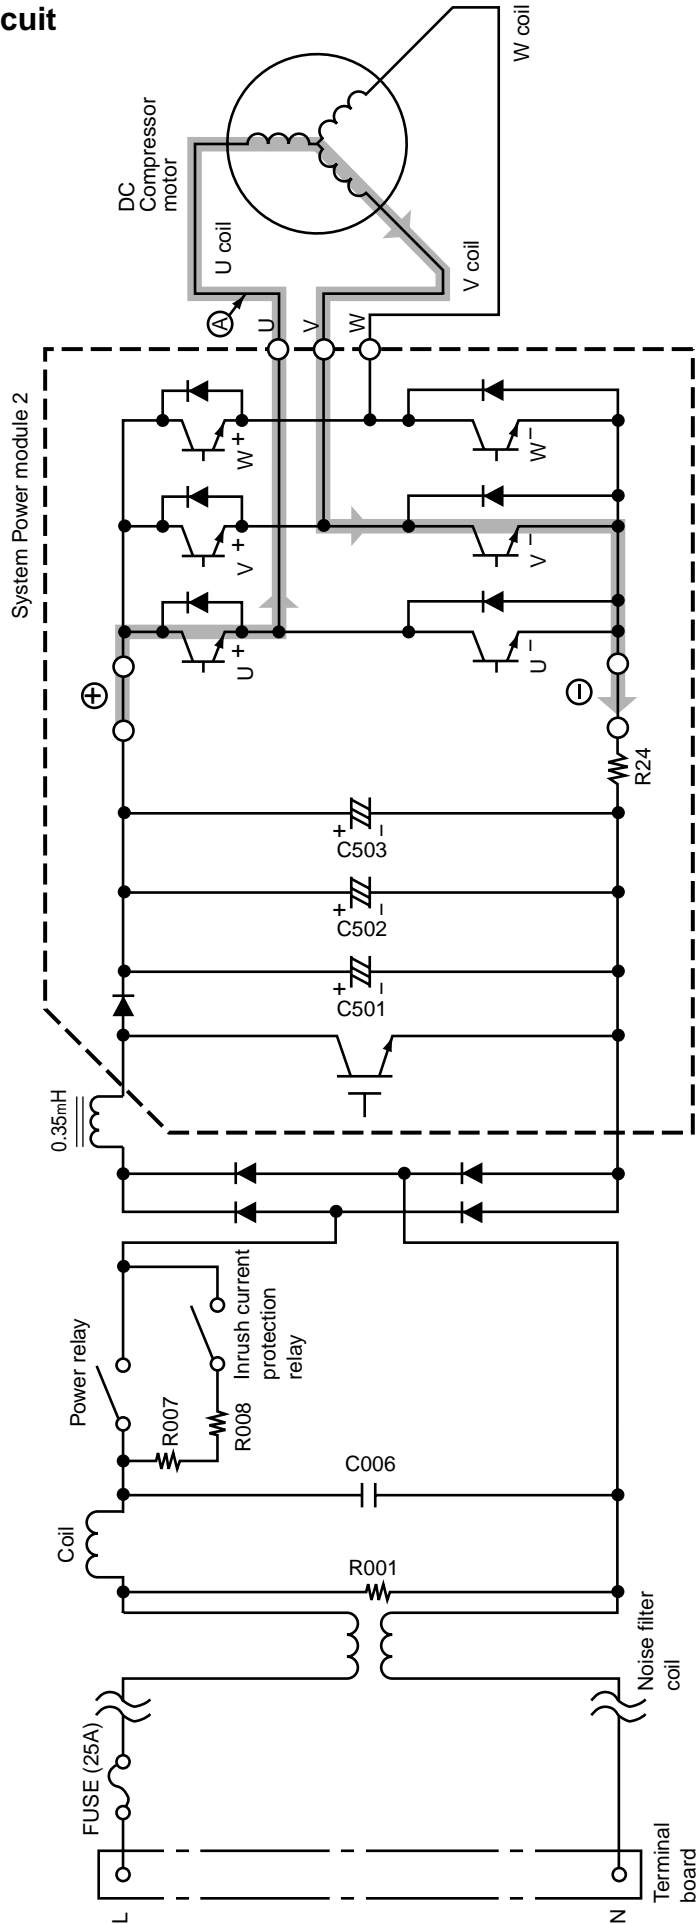
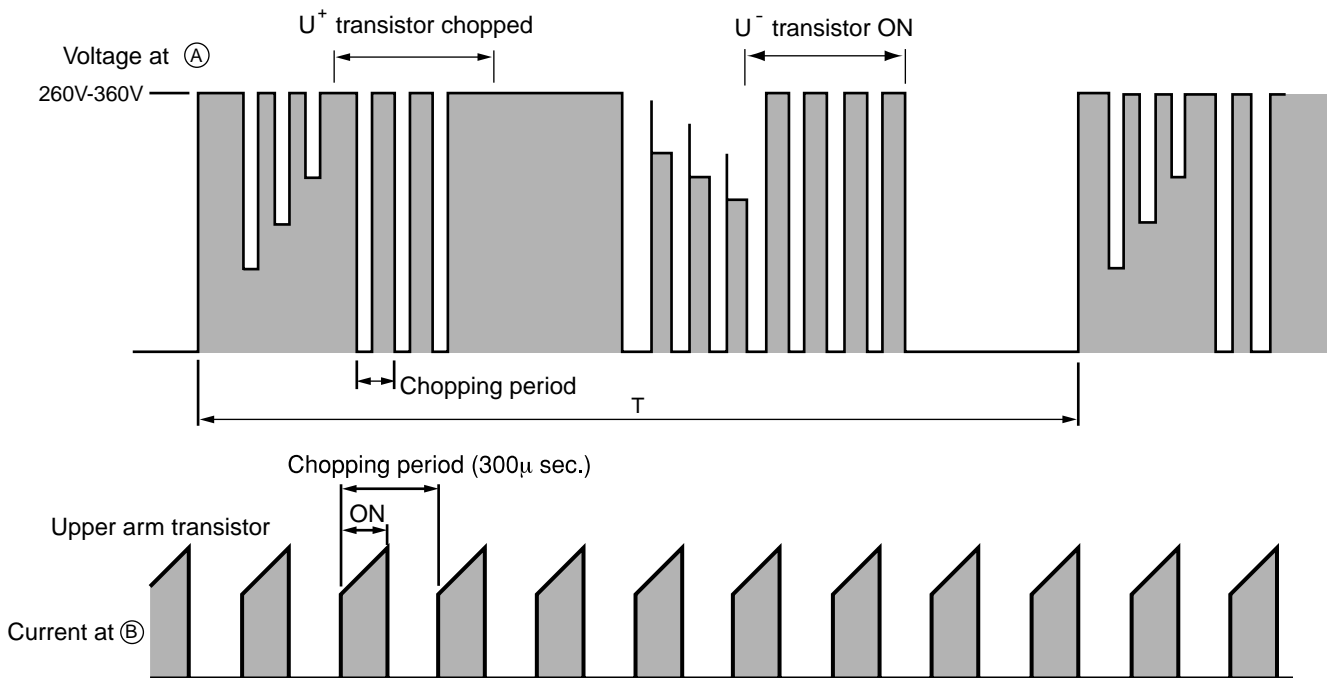

Fig. 3-1 Power module circuit (U+ is ON, V- is ON)
Fig. 3-3 Voltage waveform at each point
- Fig. 3-1 shows the system power module and its peripheral circuit. The three transistors on the positive ⊕ side are called the upper arm, and the three transistors on the negative ⊖ side, the lower arm.
- Fig. 3-3 shows voltage waveform at each point shown in Figs. 3-1 and 3-4. First half of upper arm is chopper, second half is ON, and first half of lower arm is chopper, second half is ON.
- When power is supplied U+ → U-, because of that U+ is chopped, current flows as shown below; (B)
- (1) When U+ transistor is ON: U+ transistor → U coil → V coil → V- transistor → DC current detection resistor → Point (B) (Fig. 3-1)
- Since current flows at point ② only when U+ transistor is ON, the current waveform at point ② becomes intermittent waveform as shown in Fig. 3-3. Since current at point ② is approximately proportional to the input current of the air conditioner, input current is controlled by using DC current (Id) detection resistor.